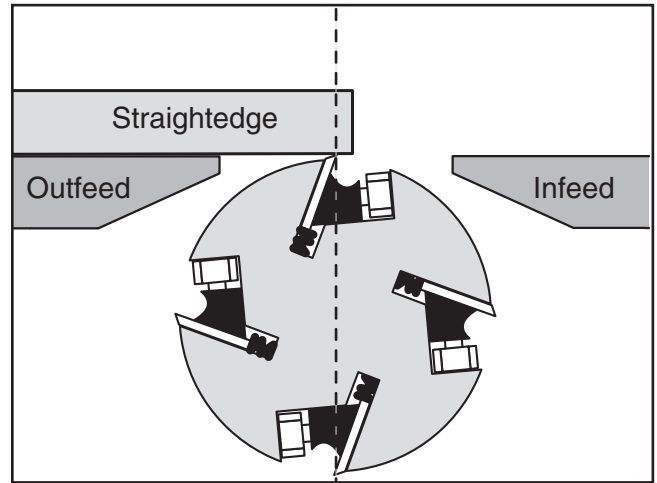

Figure 53. Cutterhead knife at top dead center even with the straightedge.
4. Rotate the motor pulley until one knife is at top dead center, as illustrated in **Figure 53**.